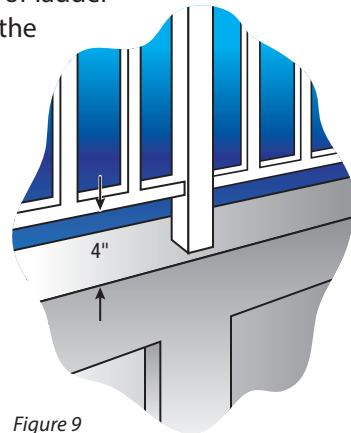

Figure 9
3. Where the top of the **pool structure is above grade or surface**, such as an above-ground pool, the barrier may be at ground level, like the pool structure, or mounted on top of the pool structure. Where the barrier is mounted on top of the pool structure, the maximum vertical clearance between the top of the pool structure and the bottom of the barrier should be 4 inches (figure 9).